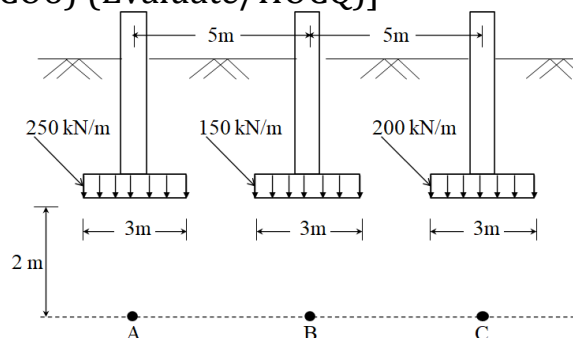

Figure 7
- (b) Three parallel strip footings (Fig.7) 3 m wide each and 5 m apart centre to centre transmit contact loads of 250, 150 and 200 kN/m, respectively. Calculate the vertical stress due to the combined loads at points A and C located at a depth of 2 m below the centre of the respective footings. Use Boussinesq's equation for line loads. (CO6) (Evaluate/HOCQ)]